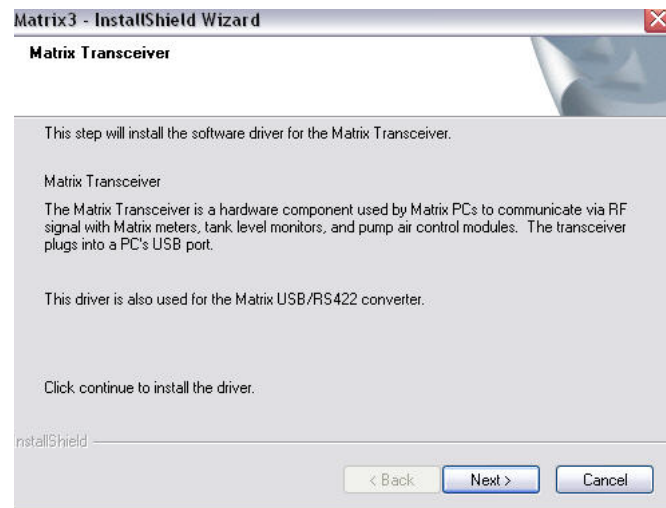

FIG. 9
11. The system configures the Matrix Database. When the Matrix Transceiver screen shown in FIG. 9 displays, select NEXT to start the Transceiver Driver installation.